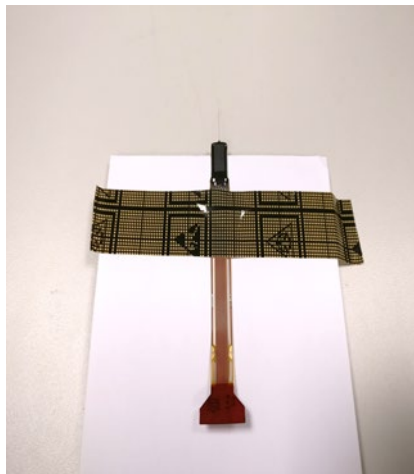

Figure 43: Fixing the probe before soldering.
- Fix the probe to a clean surface. A good method is to use ESD tape. (Figure 43)